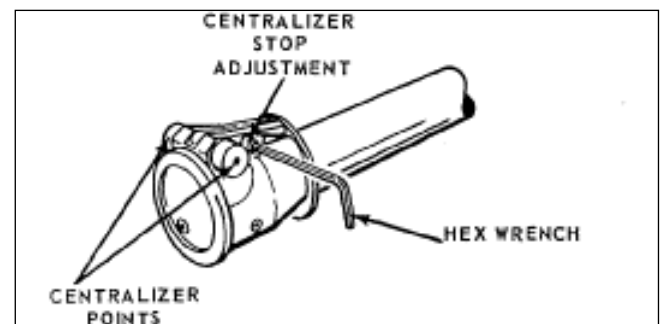

FIGURE 3
2. Insert 5/64in. Hex Wrench into Centralizer Stop Adjustment. Rotate Wrench to retract or expand Points until they barely contact walls of bore (*see Figure 3*).